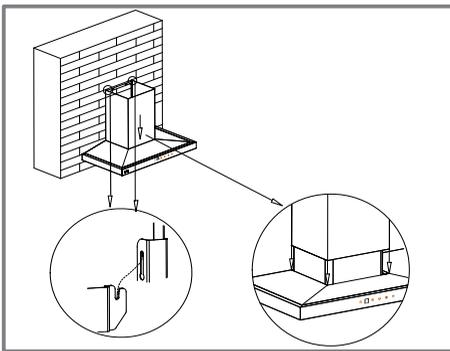
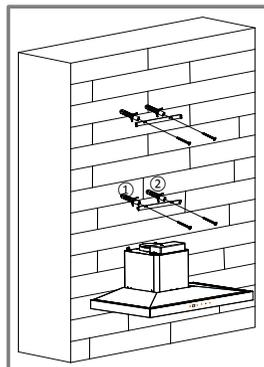
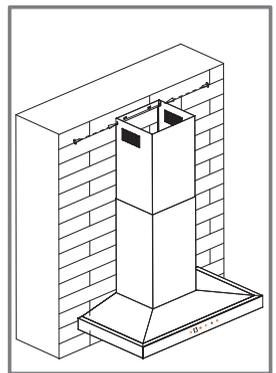

Fig. 11
Fig. 12
Fig. 13
Step 3 (Fig. 11 / Fig. 12 / Fig. 13)
- ▶ Secure the mounting bracket onto the screws firmly ① & ② and place the flue ducts onto the appliances. (Fig. 11)
- ▶ Slide the outer flue duct section downwards, attached it to the left and right of the retaining bracket to engage it. (Fig. 11)
- ▶ Slide the inner flue duct to the required height and mark where the screws should be inserted and drill 8mm diameter holes to a depth of 40mm and secure the mounting bracket onto the screws provided. (Fig. 12)
- ▶ Use the provided ST4 * 8 screws to attach the inner flue duct on the left and right sides of the bracket. (Fig. 13)